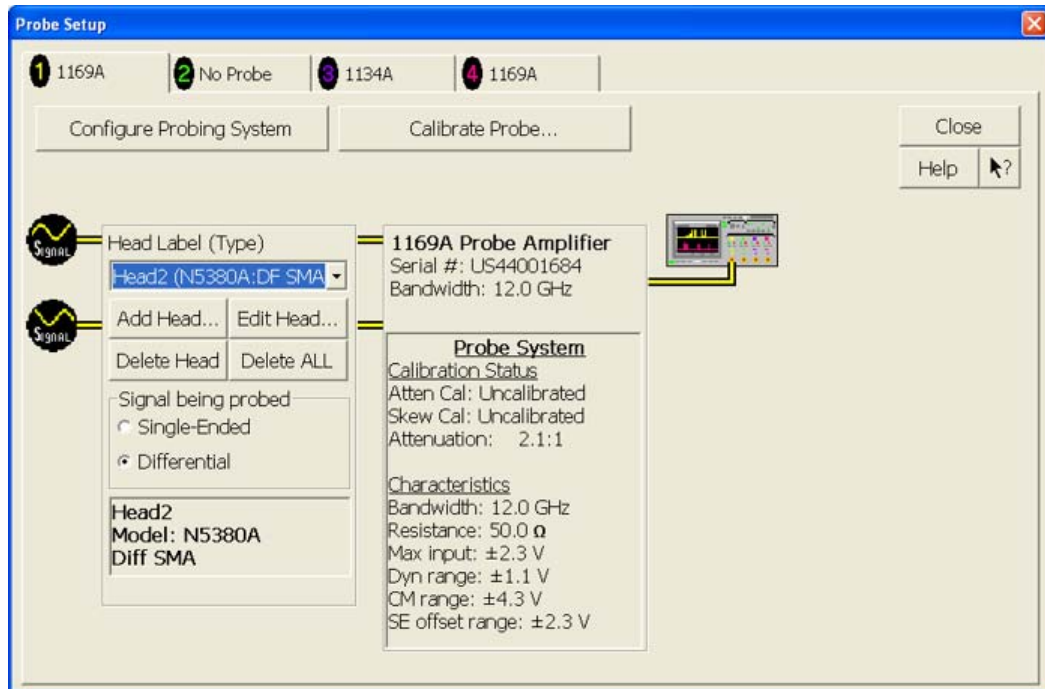

Figure 93 Probe Setup Window.
- 2 Referring to Figure 93 below, perform the following steps: